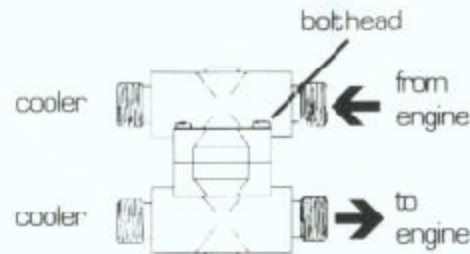

FIG 1
3. Connect up hoses as shown on Fig. 1.